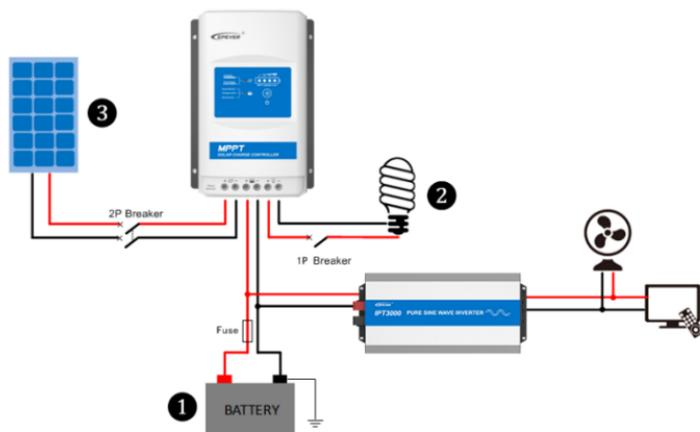

Figure 2-2 Schematic of wiring diagram
Step 2: Connect the system in the order of ① battery → ② load → ③ PV array by Figure 2-2, "Schematic Wiring Diagram" and disconnect the system in the reverse order ③ ② ①.